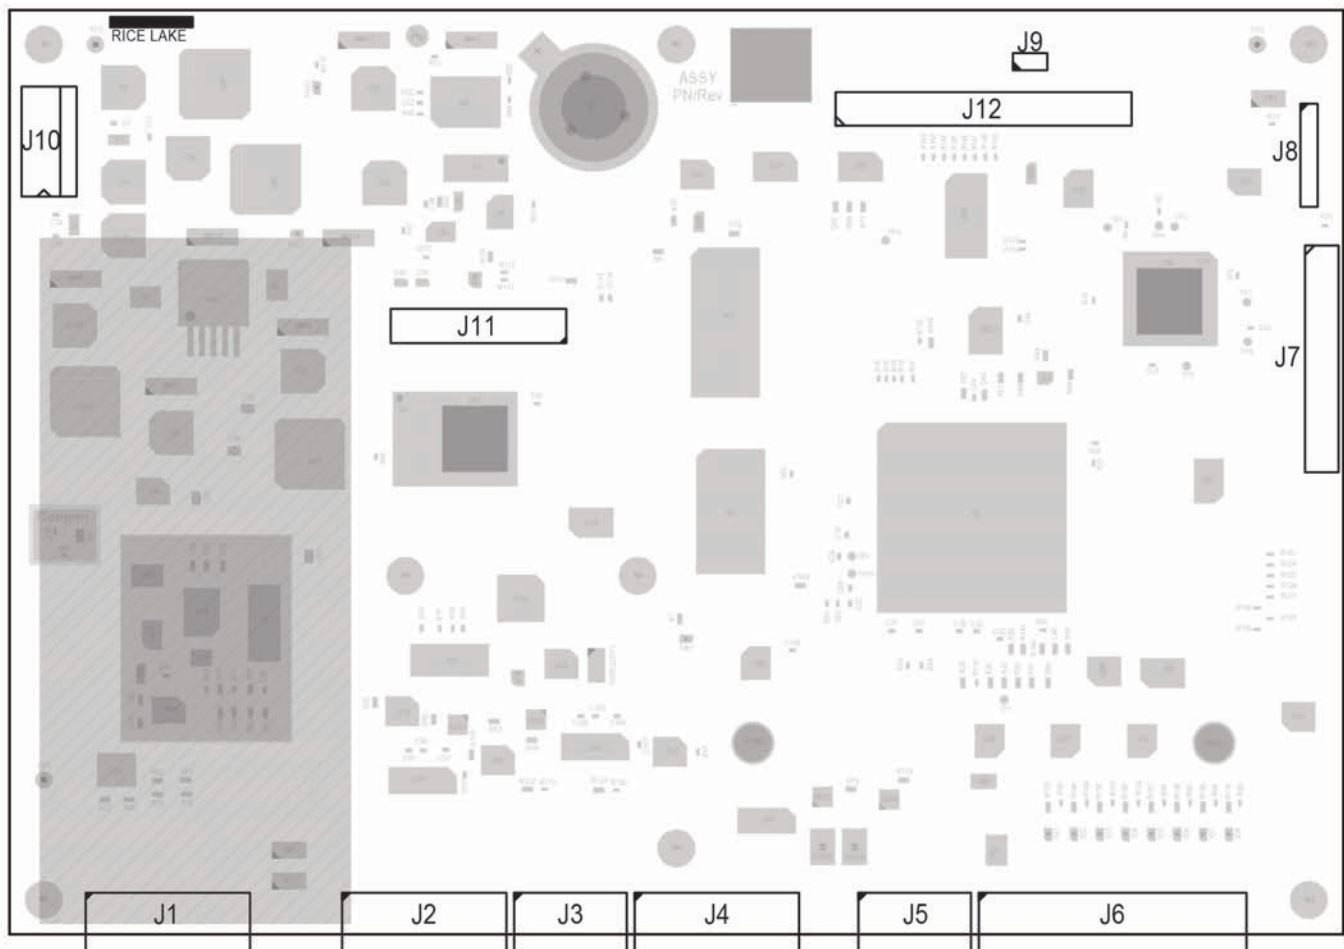
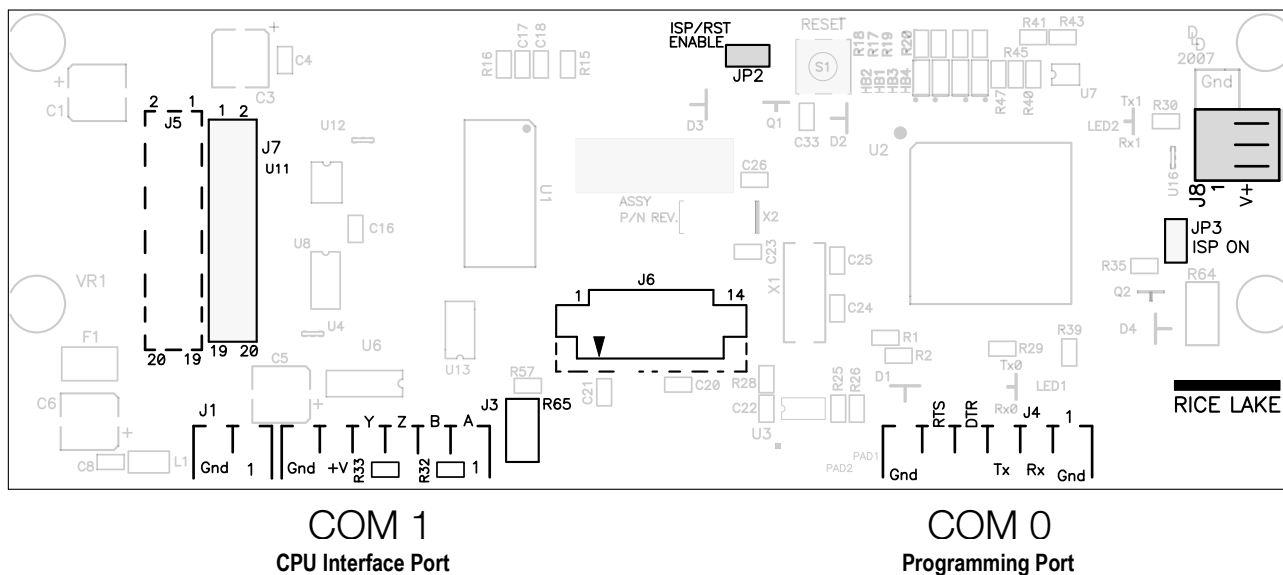

Figure 3-2. 720i CPU Board
Figure 3-3. 720i Display Board
Installation of option cards in connector J11 requires removal of the PORT2/OPT1 port selection jumper (Figure 3-2 on page 12). Install the jumper to enable RS-232 communications through connector J2; remove the jumper to enable a USB or Ethernet option card installed in connector J11.
Table 3-4 shows the connections between connector J4 on the 720i CPU board and connector J3 (Com 1) on the detached display module (DDM) board. See board diagrams in Figure 3-2 on page 12 and Figure 3-3 on page 13.
2. Carefully align the option card connector with connector J12 or J11 on the CPU board (Figure 3-2).
4. Use the screws provided in the option kit to secure the other end of the option card to the threaded standoffs on the CPU board (Figure 3-2).
Table 3-5 lists the slot numbers, CPU board connectors and configuration assignments made for both onboard and expansion card functions in the 720i. See Figure 3-2 on page 12 for connector locations.
See Figure 3-2 on page 12 for CPU board battery location and orientation (positive side up).